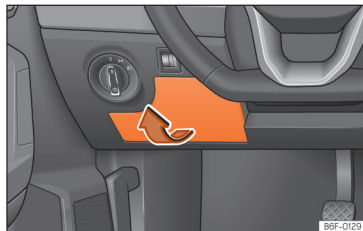

Fig. 159 On the dashboard on the driver side: lid of the fuse box.
- **Open:** remove the fuse box cover in the direction indicated »» Fig. 159.